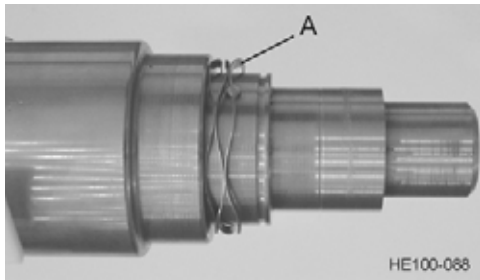

Figure 55 - Install Wavy Spring
1. The primary seal body is held in place on the mutator shaft by two seal drive pins. Each one should be 5/32 inches (+/- 0.015") above the stub shaft surface. The secondary seal body is held in place by one seal drive pin. It should be 3/32 inch (+/-0.015") above the stub shaft surface. It is extremely important that these dimensions be maintained. If the pins are too high, the seal will jam; if they are too low, the body will rotate. See Figure 55 and Figure 58.
- Place wavy washer spring (See Figure 55, Item A) on shaft.